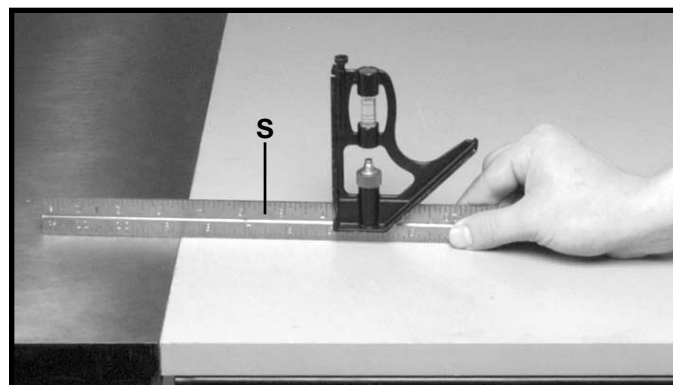

Fig. 17
13. Using a straight edge (S) Fig. 17, make certain the Unifence table surface is level with the saw table by adjusting two leveling screws located on the bottom of table legs and adjusting angle brackets (B) Fig. 13, use a level, side to side and front to back to make sure the table is level. **IMPORTANT:** Front edge of Unifence table must be flush with or slightly behind front edge of saw table.